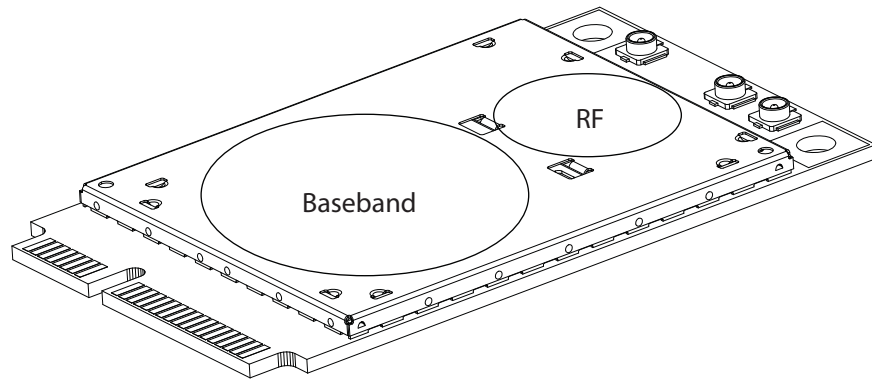

Figure 7-4: Shield locations
Specific areas requiring heat dissipation are shown in Figure 7-4:
- Monitor temperature at all shield locations. Attach thermocouples to the areas indicated in Figure 7-4 on page 64 (Baseband, RF).